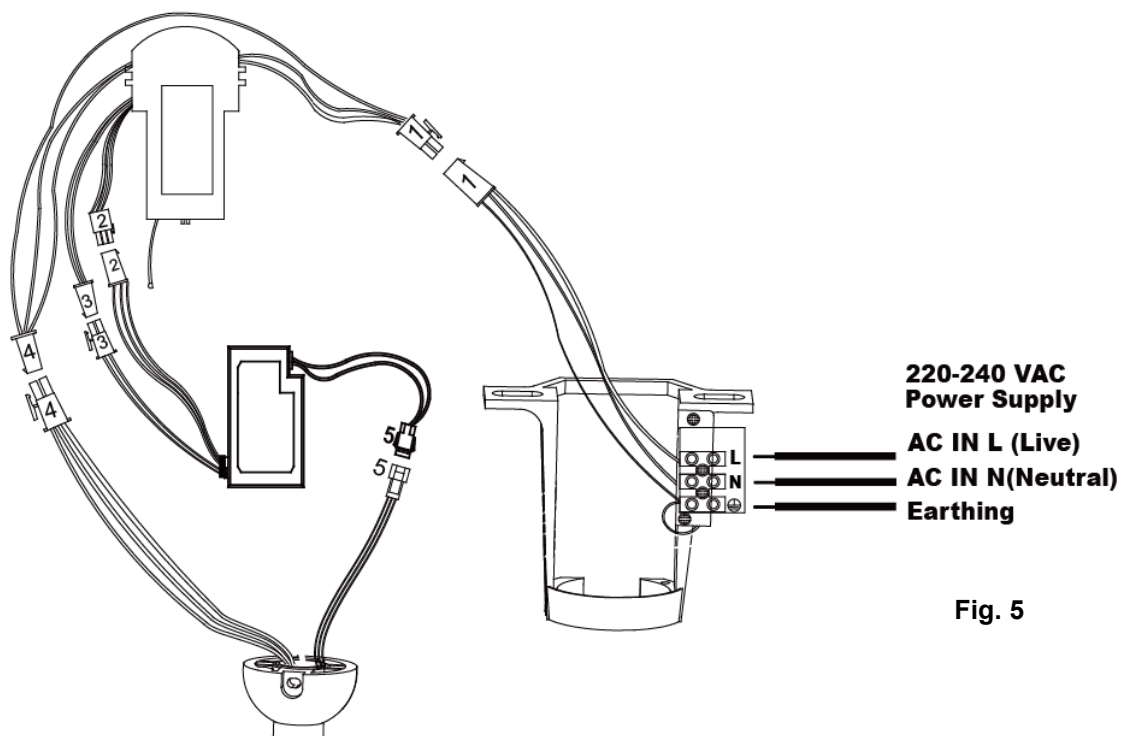

Fig. 5
3. Refer to the wiring diagram provided for Electrical Connection/installation. Fig. 5
4. After completing the electrical wiring at the mounting bracket terminal and connecting the remote receiver power input wires and fixed wiring via the 4-port quick connectors (1); connect the LED driver power input wires and remote receiver power output wires via the 2-port quick connectors (3); connect the LED driver PWM signal input wires and remote receiver PWM signal output wires via the 3-port quick connectors (2); connect the remote receiver fan output and motor input wires via the 4-port quick connectors (4); also connect the LED driver output wires and LED light wires via the quick connectors (5). Fig. 5